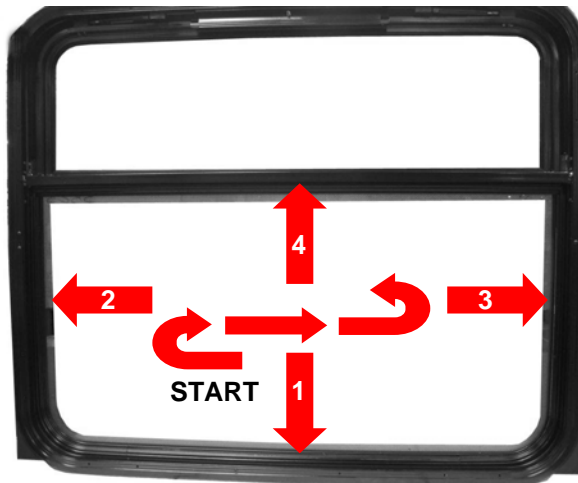

FIGURE 3-17. REMOVE CLIPS (CLOCKWISE)
- 2) Refer to **Figure 3-17**. When removing clips, start with bottom clip first.